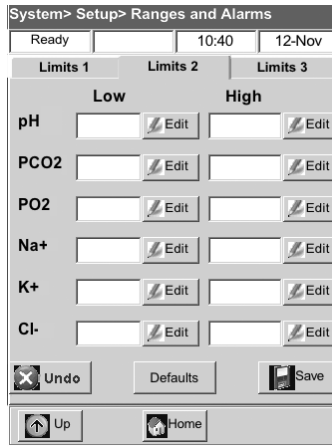

Figure H-15: System> Setup> Ranges and Alarms> Limits 2 screen
5. Tap the **Limits 2** and **Limits 3** tabs (Figures H-15 and H-16) to view the normal ranges for each species and sample type. (See Appendix A for a list of the normal ranges the VetStat analyzer uses for each species.)